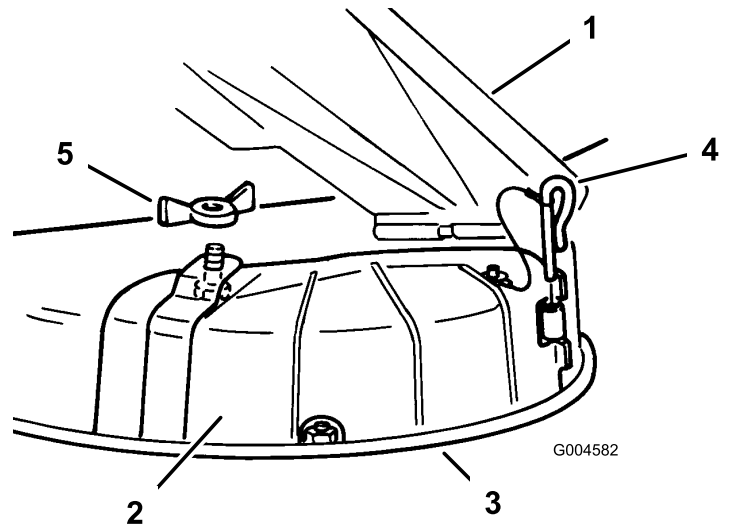

Figure 24
3. Remove the wing nut and bolt securing the cover in place (Figure 24). Retain all parts for future use.
4. Remove the hinge pin securing the cover to the deck (Figure 24).
3. Lift the grass deflector and place the discharge cover over the opening onto the lower lip of the mower and slide it into the front hinge (Figure 24).
4. Slide the hinge pin through the hinge (Figure 24).
5. Secure the discharge cover to the mower with the wing nut (Figure 24).